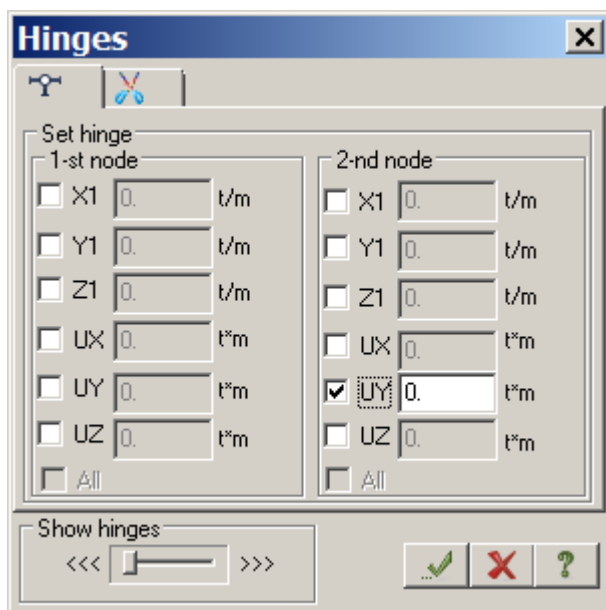

Figure 3.4 **Hinges** dialog box
- ⇒ In the **Hinges** dialog box (see Fig.3.4), define nodes and directions along which there is no stiffness or there is limited stiffness for the restraint between one of the bar ends and model node. To do this, select appropriate check boxes: